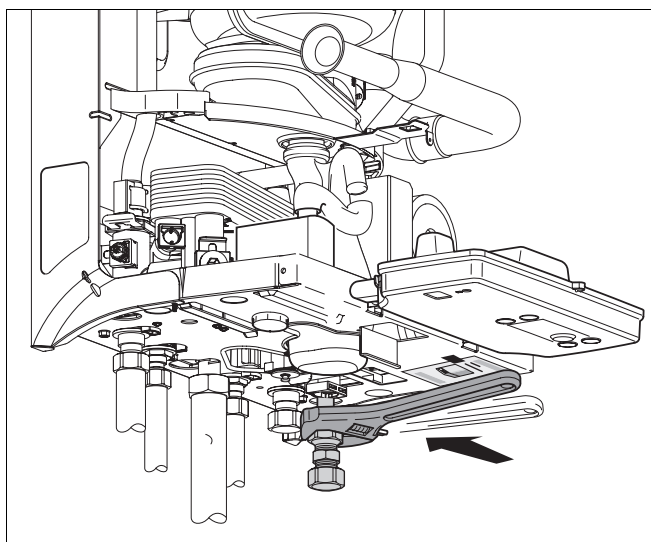

fig. 6 Compression fitting
- Attach the compression fitting (fig. 6).